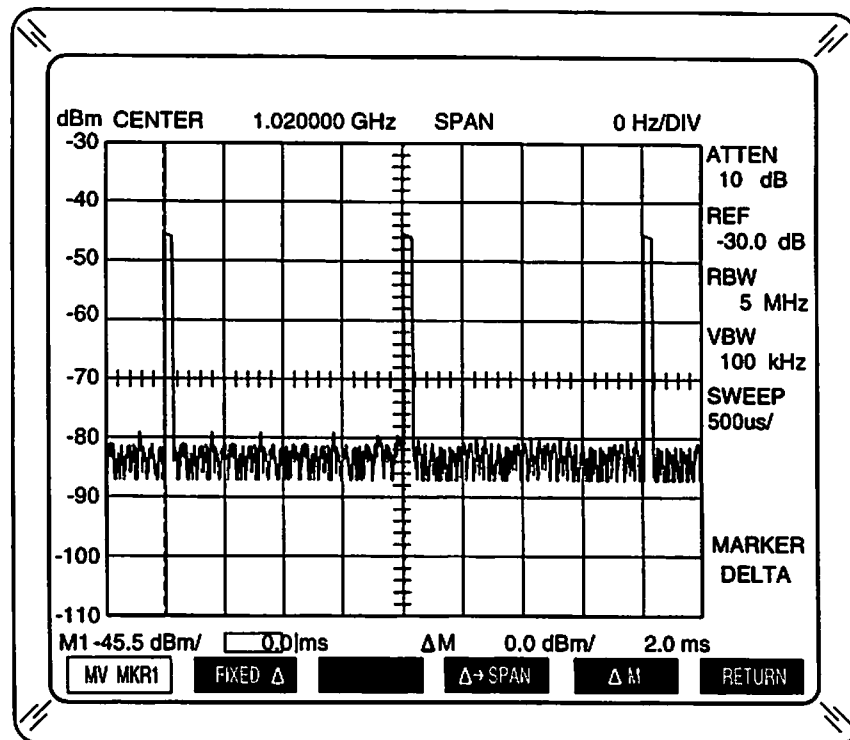

Figure 4-16 PRF Measurement for Dense Spectrum
- Adjust Trigger Delay until Display shows desired horizontal position of pulses. Refer to Figure 4-16.
25. Calculate PRF from reciprocal: $PRF = 1/\Delta T$ (Example in Figure 4-16 is 500 Hz.).